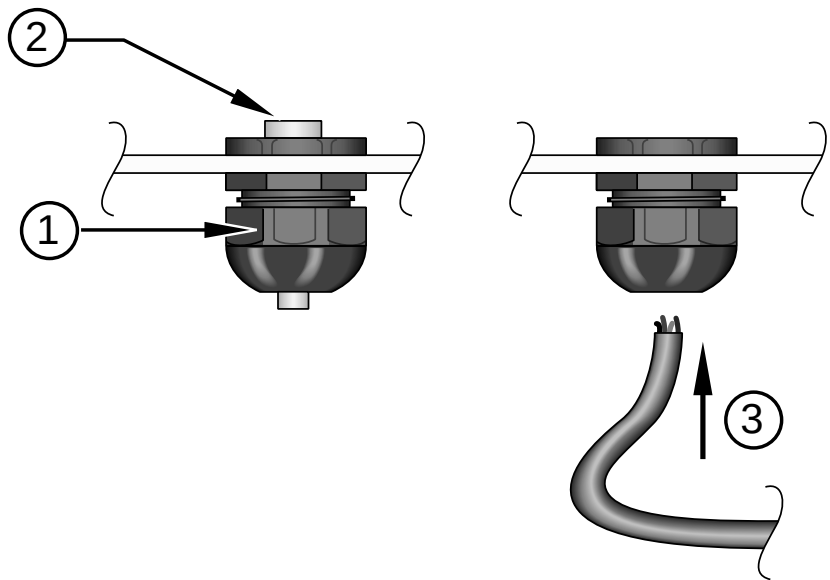

FIGURE 3-4. Cable Inserted into Compression Fitting
3. Route each sensor and peripheral lead through a unique compression fitting (see Figure 3-4).
9. Rotate each compression fitting so that the fitting clamps tightly against the sensor cable to provide a water-tight seal (see Figure 3-4).